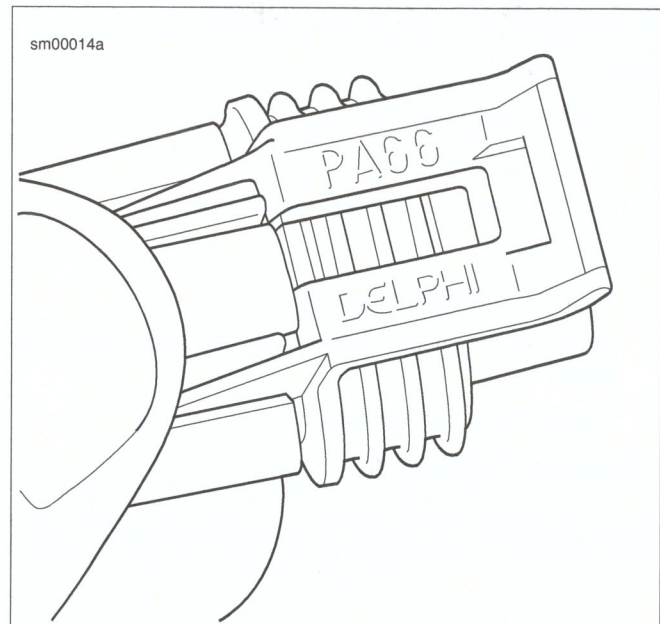

Figure A-3. Delphi GT 150 Sealed Connector: Socket Housing Latch
1. See Figure A-3. Lift the external locking latch.